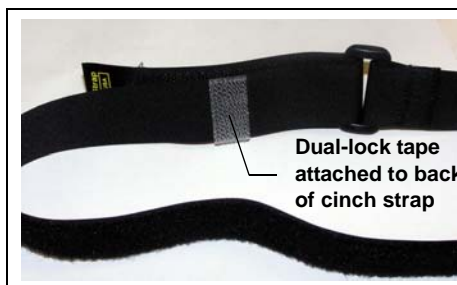

Figure F-3. Cinch Strap with Dual-Lock Tape Attached
5. Remove the paper backing from a piece of dual-lock tape and press the tape onto the back of the cinch strap, near the buckle (see Figure F-3).